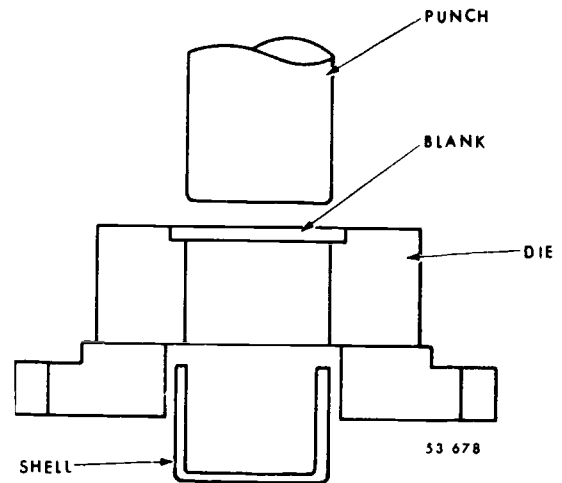

Figure 1-24 Drawing die
**Drawing.** The production of cups, shells, boxes, and similar articles from metal blanks is termed "drawing." In this process, a piece of flat stock, such as brass or steel, is pushed through a round die by a dull-ended punch that cannot cut through the stock. An example is shown in figure 1-24. The shell that is pushed through the die is removed from the punch on the upward stroke by catching on the stripping edge.